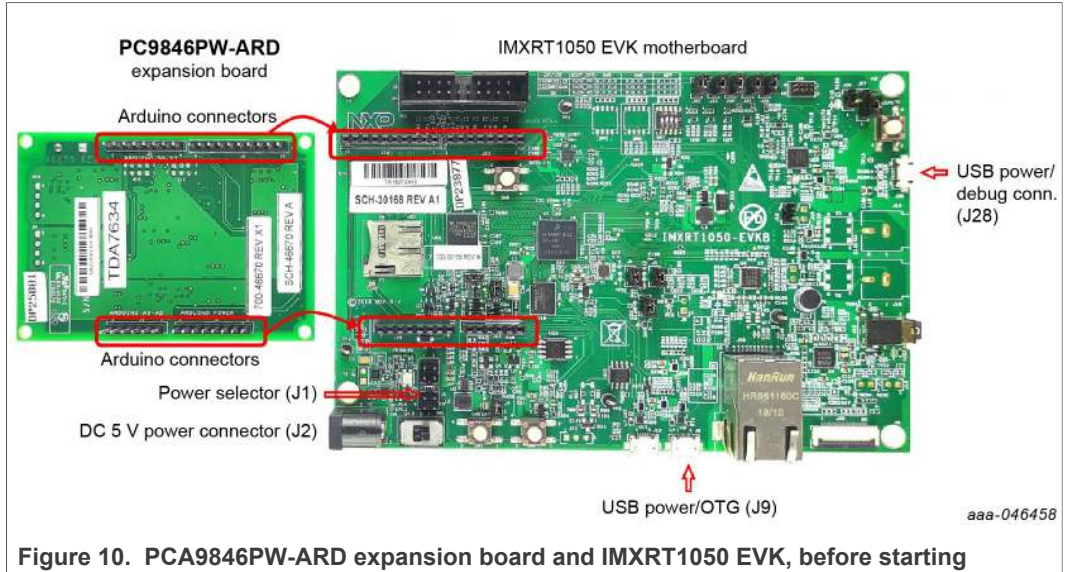

Figure 10. PCA9846PW-ARD expansion board and IMXRT1050 EVK, before starting
Figure 10 shows the required hardware for operation of the PCA9846PW-ARD expansion board with IMXRT1050 EVK. The following items are necessary:
From J1 on the EVK board, see Figure 10, the user can select the power configuration for the motherboard. Refer to IMXRT1050 EVKB Board Hardware User's Guide[2].
2. Insert the PCA9846PW-ARD expansion card on the Arduino connector of the EVK. See Figure 10.